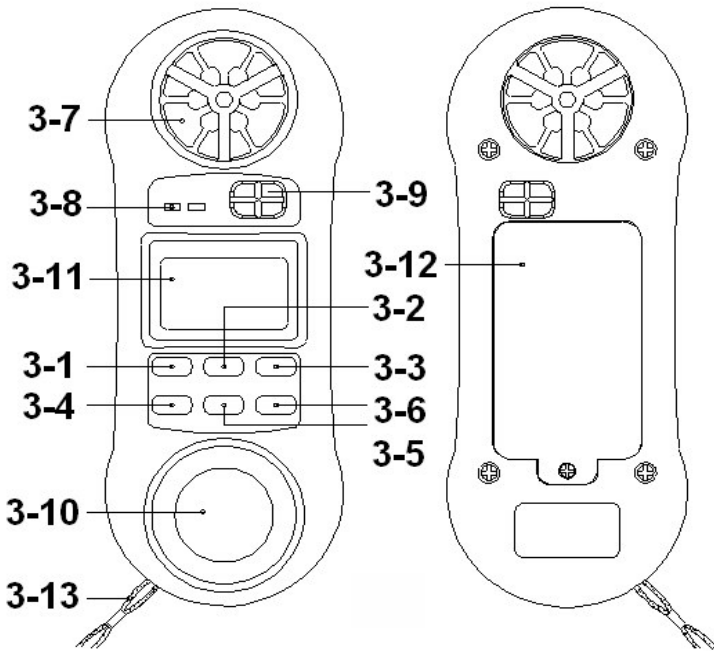

Fig. 1
- 1) Power on the instrument by pressing the " Power Button " (3-1, Fig. 1).
- 2) Select the Anemometer function by pressing " Function Button " (3-6, Fig. 1).
- 3) Press the " Unit/Zero Button " (3-4, Fig. 1) to select unit that you want and then face the " Air Flow Sensor " (3-7, Fig. 1) to the source of wind.
- 1) Power on the instrument by pressing the " Power Button " (3-1, Fig. 1)..
- 2) Plug a type K thermocouple probe in the " Thermocouple Input Socket " (3-8, Fig. 1).
- 3) Select the Temperature function by pressing " Function Button " (3-6, Fig. 1)
- 2) Select the Relative Humidity function by pressing "Function Button " (3-6, Fig. 1).
- 2) Select the Light Measurement function by pressing the " Function Button " (3-6, Fig. 1) until the light value is displayed. The light display digits are oriented 180° from the other function displays for easy exposure and output reading of the light sensor.
- 3) Press the " Lux/Ft-cd Button " (3-5, Fig. 1) to select measuring unit " Lux " or " Ft-cd " .
- * For best results zero the light sensor prior to use in a dark environment. Placing the light sensor end of the meter under a desktop or flat surface so as to block any light can accomplish this. Then press the "Unit/Zero Button" (3-4, fig. 1) to set the meter indication to zero.
Whenever press the "Hold Button (3-2, Fig. 1)" will freeze the current reading value with a "HOLD" symbol on the display.
- 1) The Data Record function records & displays the maximum and minimum reading values. Start the Data Record function by pressing the " Max./Min. Button " (3-3, Fig. 1) once. There will be a " REC " symbol on the display.
- (a) Press the " Max./Min. Button " (3-3, Fig. 1) once and the " Max " symbol along with the maximum value will appear on the display.
- (d) Clear the Max./Min. value recorded by pressing the " Hold Button " (3-2, Fig. 1) once. Previous recorded Max./Min. value will be given up and then revert to the REC. function keep on recording.
- 2) Open the " Battery Compartment / Cover " (3-12, Fig. 1) and remove the battery.